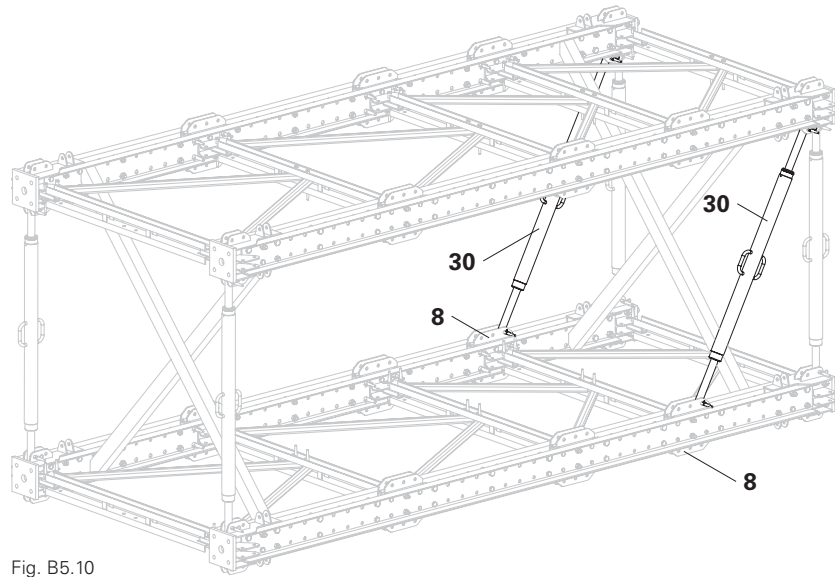

Fig. B5.10
1. Insert the appropriate heavy-duty spindle SLS (30) into the connection of the prop base VST 48 (17).
2. Connect the heavy-duty spindle SLS (30) to the bracing connector VST (8) and prop base VST 48 (17) by means of 1x fitting pin \varnothing 21 mm (9) each. (Fig. B5.10)